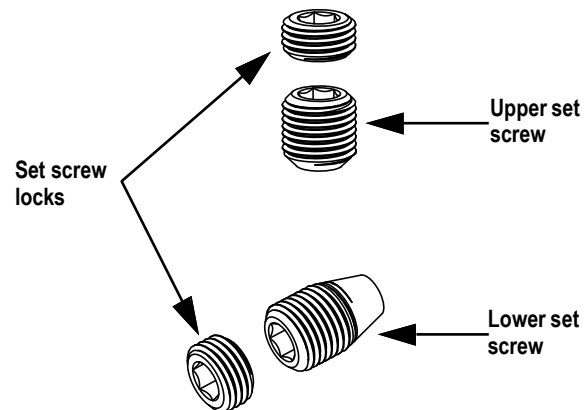

Figure 8-6. Set Screw and Lock Close-Up
13. Loosen the lock below the lower set screw (see Figure 8-6).